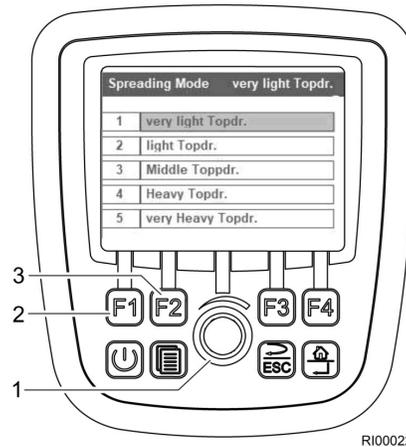

Fig. 39 Spreader mode
1. Turn the rotary control (Fig. 39/1) to select the desired spreader mode.
3. If you want to adjust the spreader mode, press the F1 button (Fig. 39/2).
4. If you want to change the name of spreader mode, press the F2 button (Fig. 39/3).